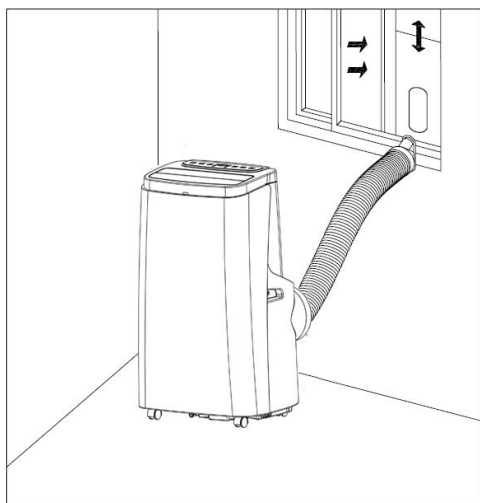
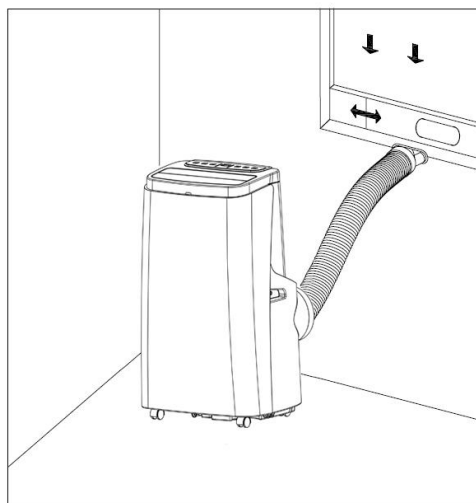

Figure5
Figure 6
- 2) Elongate the heat pipe and snap the flat end of the heat pipe joints into the elliptical hole of the window sealing plate assembly (as shown in Figure 5 and Figure 6) .